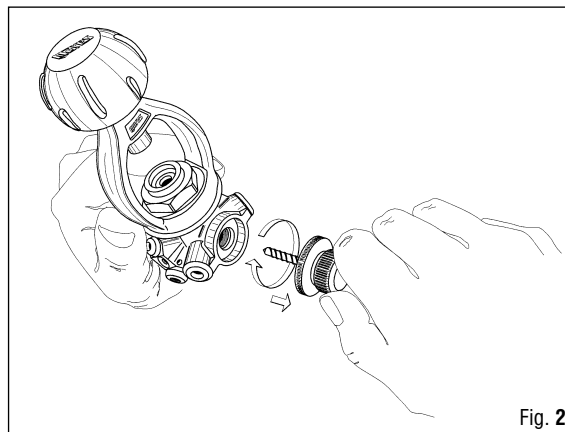

Fig. 2
5. Using the 1ST stage poppet seat extractor (B-38), remove the 1ST stage poppet seat (Fig. 2).